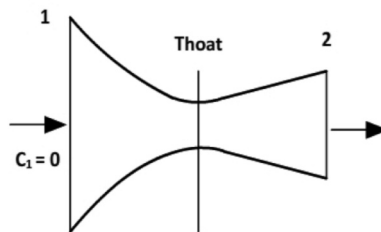

Figure Q4
- b) Air at 8.6 bar and 190 °C expands at the rate of 4.5 kg/s through a convergent-divergent nozzle into a space as shown in Figure Q4 below. Assuming that the inlet velocity is negligible, calculate the following.